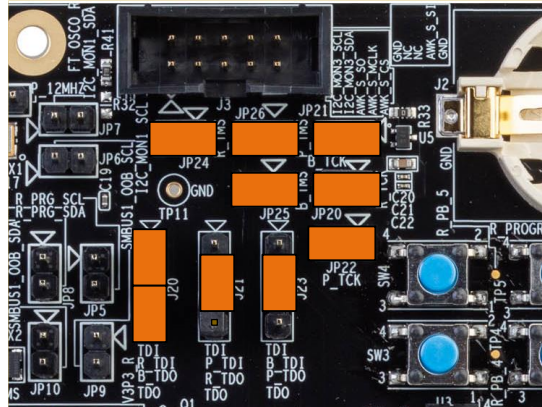

Figure 4.1. All Device JTAG Chain Jumper Setting
1. Connect BMC to the JTAG chain. Refer to Figure 4.1 or Table 4.2.